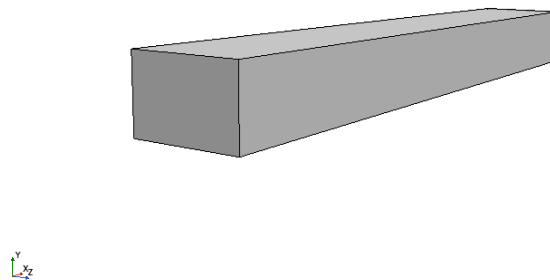

Figure 16: View of duct body in geometry scene.
- The duct should now be available in the *Display Window* and should look similar to Figure 16.